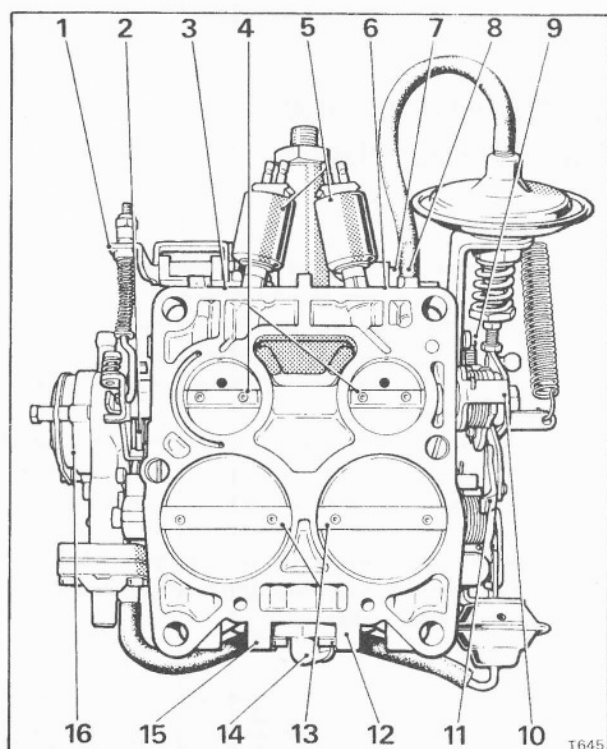

Fig. K43 Throttle body
**Throttle body (see Fig. K43)**